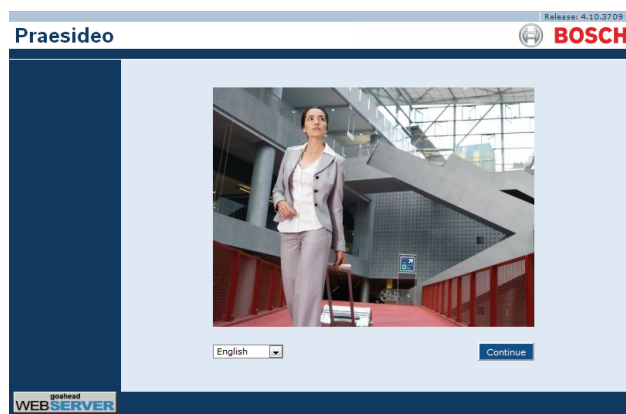

figure 37.6: Praesideo web interface home page.
- 2 Enter the IP address of the network controller in the address bar. Do not use leading zeros in the IP address. For example, if the IP address that is displayed on the network controller is 192.168.000.015, enter 192.168.0.15 in the address bar. A screen similar to the one in figure 37.6 appears.